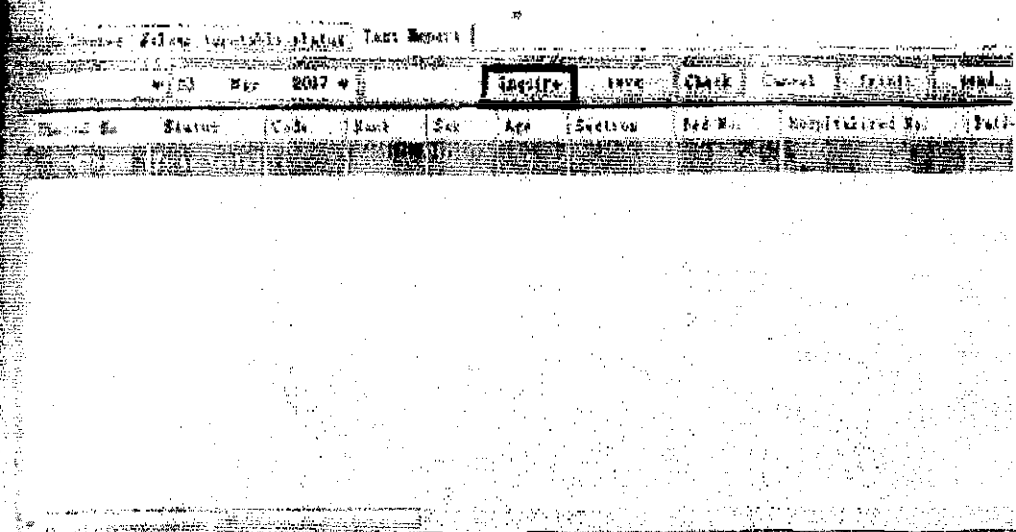

Fig. 8.2-1 Sample search
criterion by clicking the "Inquire" button (Fig. 8.2-1).
1. Select the required sample; check the test results and click the "Save" button (Fig. 8.2-1)
checked sample and click "Cancel" (Fig. 8.2-1). You can only remove the verified status of an account with the appropriate permissions.